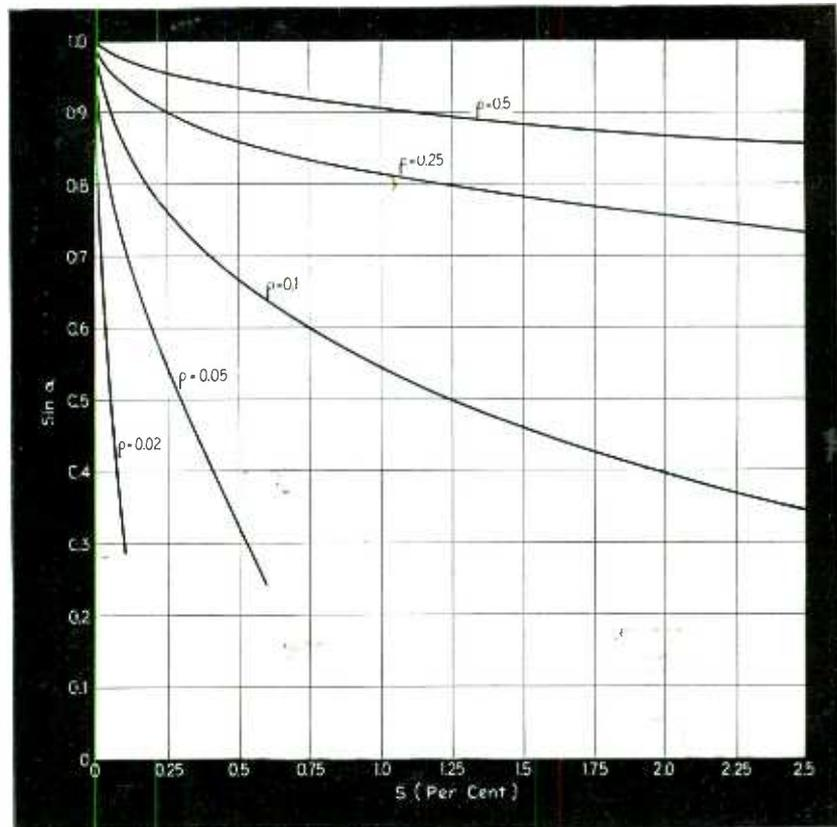

Fig. 3—Chart of the sine of the starting angle versus twice the fractional ripple voltage for low ripple voltages
sible to obtain a graphical solution in the following way: If  $\log \operatorname{cosec} \alpha$  is computed from Eq. (5) and  $\log (S \operatorname{cosec} \alpha)$  from Eq. (7) for various values of  $\rho$ , and plotted as a function of  $\theta$  on transparent paper, the values of  $\alpha$  and  $\theta$  satisfying the two equations simultaneously may be obtained by simply superposing the two graphs with their  $\theta$  axes separated by  $\log S$  and the ordinate axes collinear, and then reading the coordinates of intersection of curves corresponding to the same value of  $\rho$ . In this way, the values shown in Fig. 3, 4, and 5 were obtained, and
and hence Figs. 3 and 4 give directly the voltage regulation curves of the rectifier. An exact expression, applicable to any ripple voltage, is obtained by integration of Eq. (3) and elimination of the variable  $\alpha$  by means of Eq. (5). The result is: